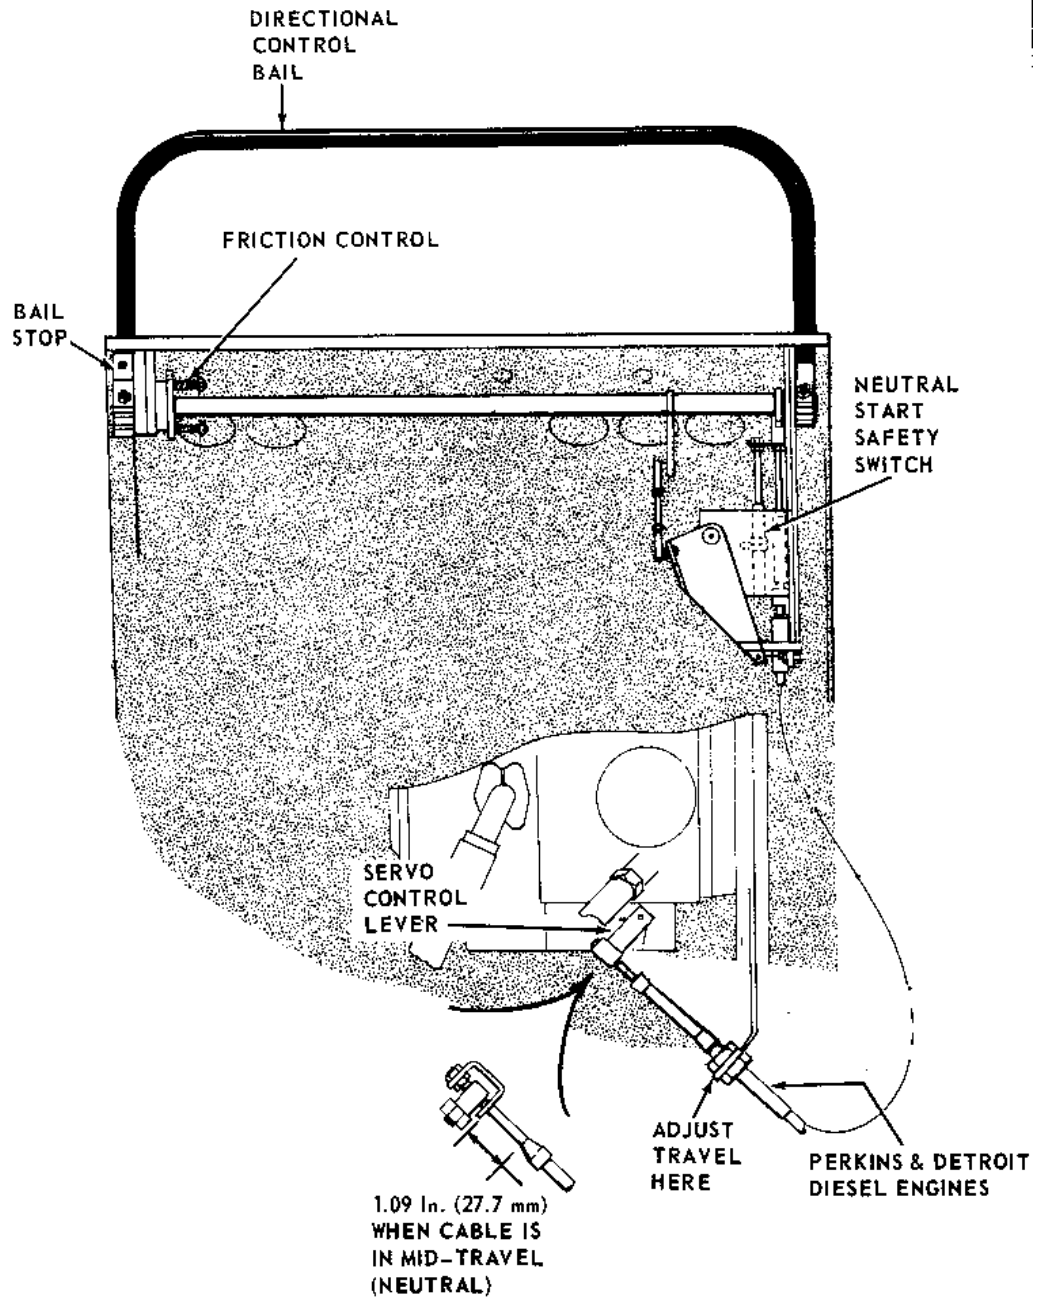

FIGURE 7-43.
7-172. TRANSMISSION CONTROL LINKAGE ADJUSTMENT (see figure 7-43).
a. Place Direction-Throttle Control Bail in neutral (vertical) position. Adjust control cable at pump so that jam nut on end of cable has full thread engagement and no more. Tighten jam nut securely. Loosen jam nut on engine flywheel housing and adjust cable so that the swivel on the servo pump control arm is centered in the bracket. Tighten jam nut securely. Measure distance between swivel bracket and external cable end. These must be a minimum of 13/32 in.(27.69 mm). Refer to figure 7-43.